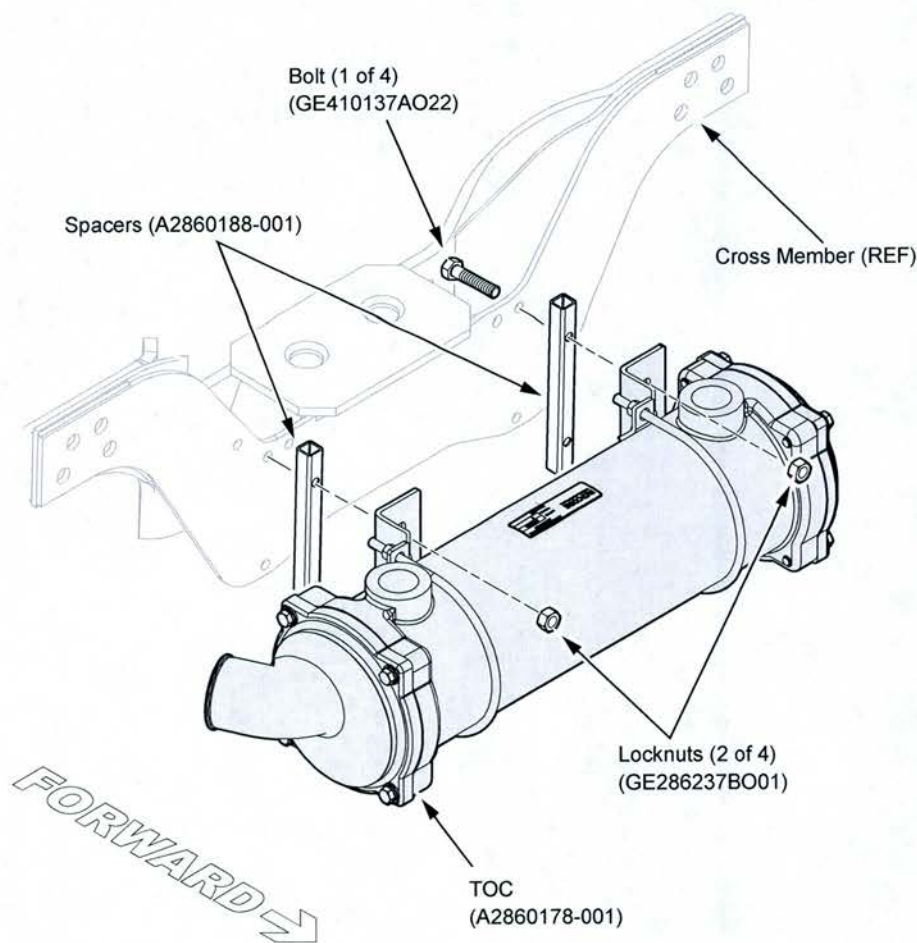

Figure 7
13. Position the 2 spacers (A2860188-001) to the cross member and hold in place with 4 bolts (GE410137AO22) (see Figure 7).
14. Install the new TOC (A2860178-001) over the 2 spacers and bolts. Install the 4 locknuts (GE286237BO01). Tighten to 45 ft-lb (61 N-m) of torque (see Figure 7).